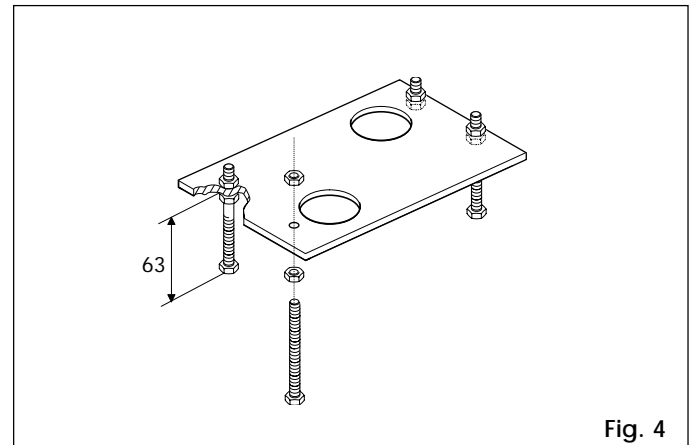

Fig. 4
- 1) Assemble the base plate as shown in Fig.4.